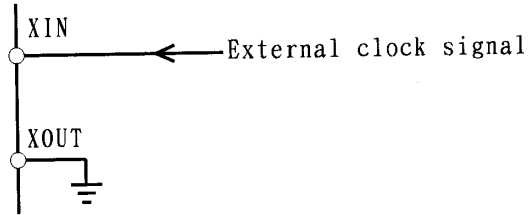

Fig. 4
- For external clock operation, if the high(H) level of the input clock signal amplitude equals to or is greater than 1.5V, and the low(L) level equals to or is smaller than 0.5V, then connection should be made as shown in Fig.4. If the input clock signal amplitude (peak-to-peak) equals to or is smaller than 1V, and equals to or is greater than 200mV, then AC coupling should be as illustrated in Fig.5.